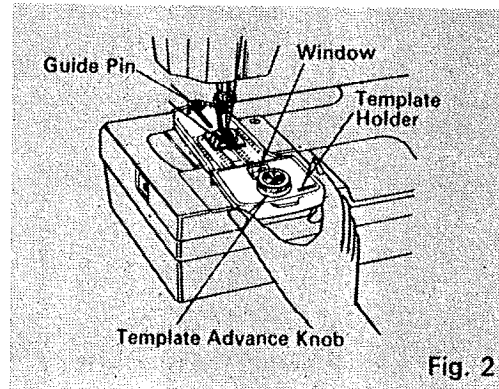

Fig. 2
2. Screw guide pin into the guide pin hole on the base directly behind the needle plate. Pull guide plate forward as in Fig. 2.
2. Fold garment away from hem leaving 1/8" of hem edge extending. (Fig. 2)